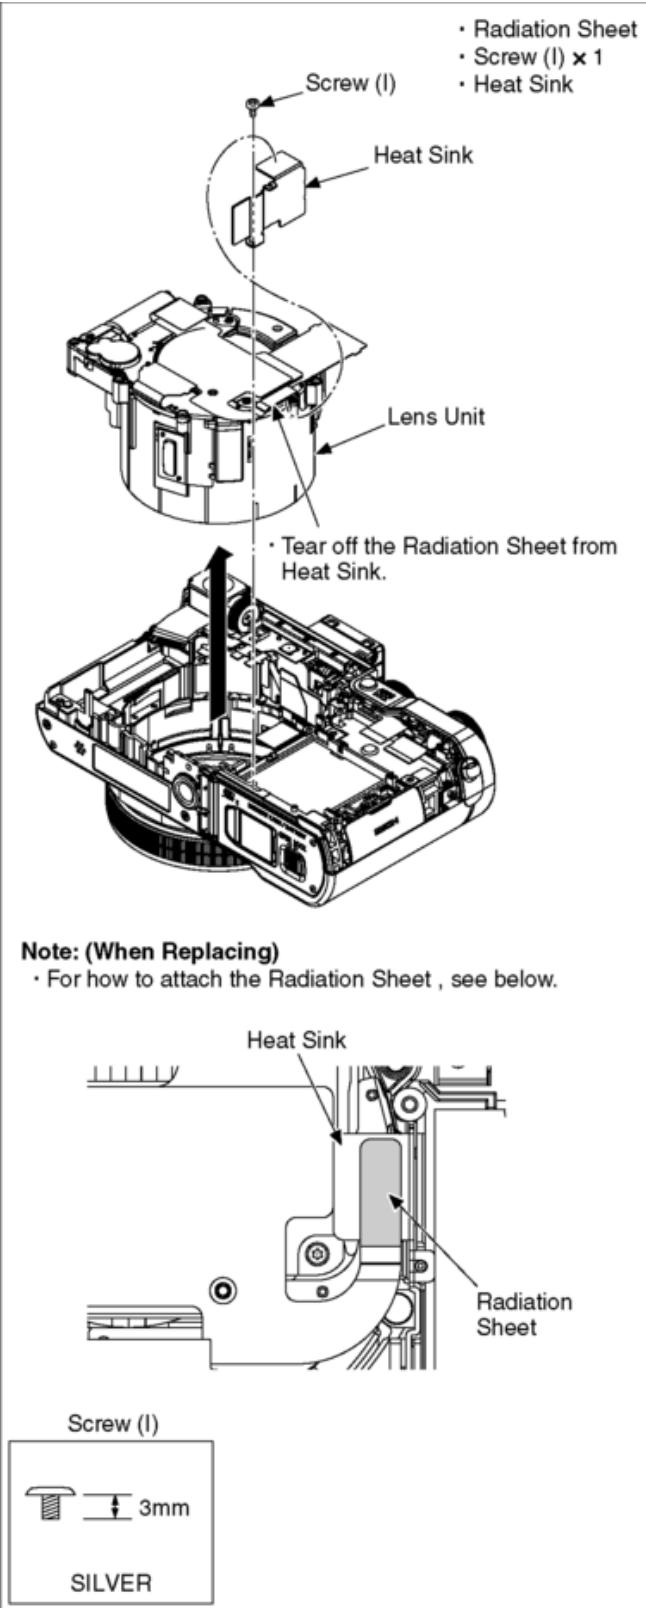

Fig. D8
| 6 | Lens Unit | (Fig. D8) | Radiation Sheet Screw (I) × 1 Heat Sink Lens Unit |